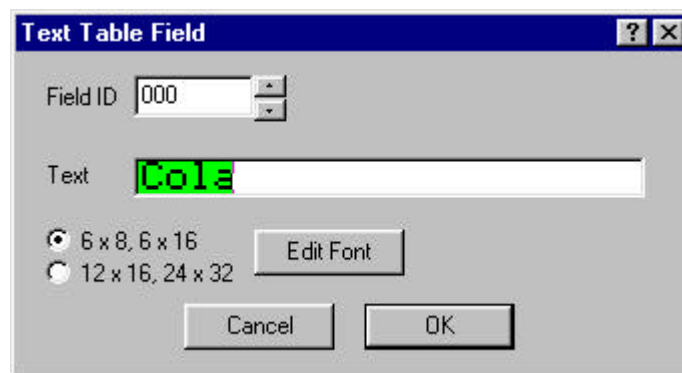

Figure 4.11 – Text Table Field Entry
1. Click Add Figure 4.11 is displayed.